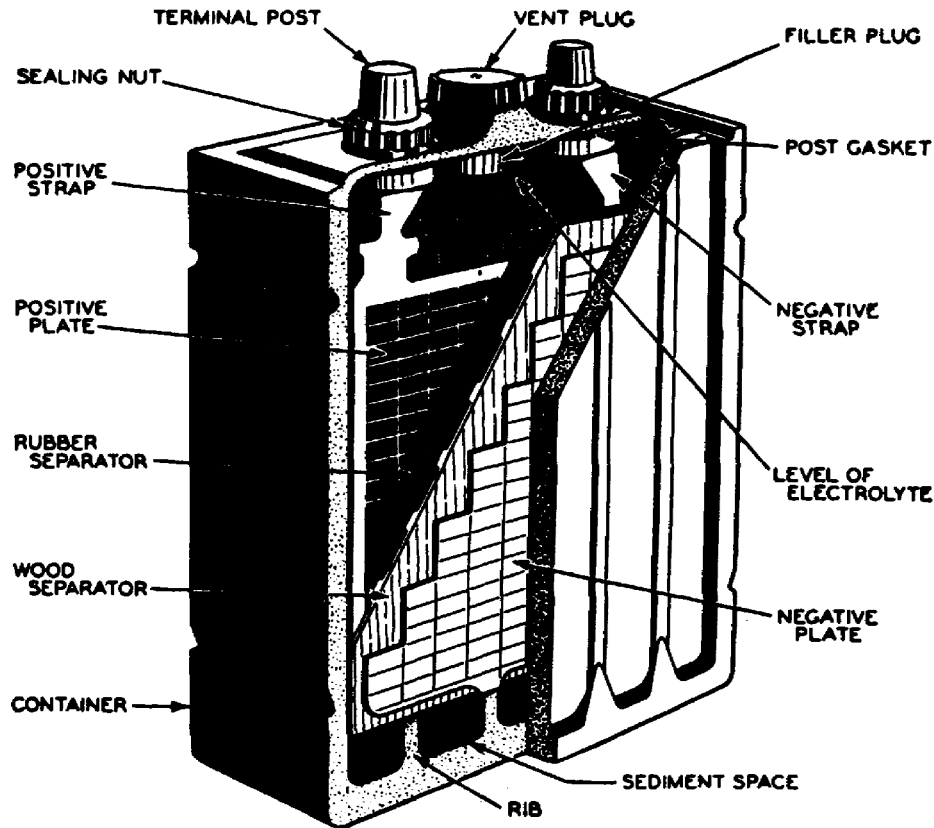

Figure 16. Cutaway view of single cell.
d. Several cells are connected in series to form batteries larger than 2 volts. Three cells are required for 6-volt batteries and six cells for 12-volt batteries. The cell terminals are connected by welding them to connector straps. Cells are placed in a one-piece container that is divided into compartments. Each compartment is the container for one cell. Figure 16 shows a cutaway view of a single cell. The element rests on raised ribs. The area between the ribs serves as sediment space. During use, the active material on the plates gradually sheds and falls into the sediment space. The container is constructed of insulating material which is resistant to acid corrosion and mechanical shock.